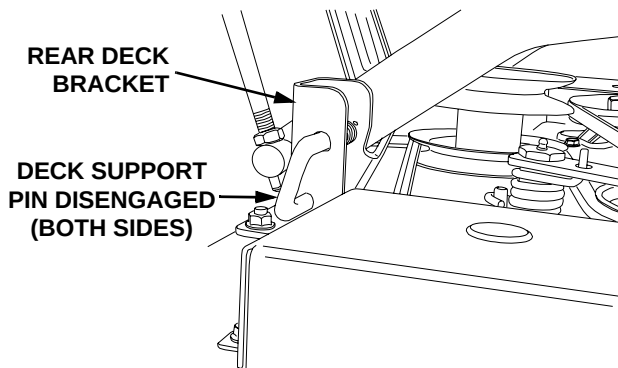

Figure 6-14
6. Pull the deck support pins outward, turn downward and release so both spring-loaded pins are held in the disengaged position against the outer surface of the deck brackets (Refer to Figure 6-14).